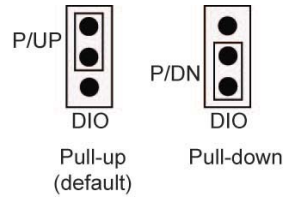

Figure 5. Pull-up/down jumper configuration
5. Configure the jumper for pull-up or pull-down, as shown in Figure 5.